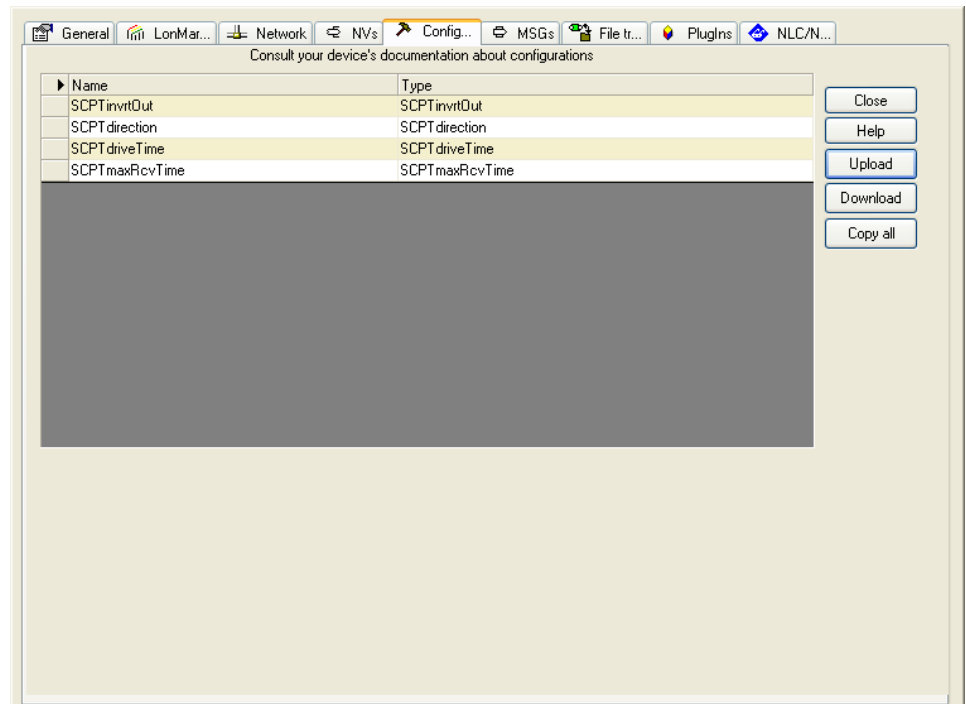

Figure 95: Configuration Tab for Configuration Properties in NL220.
2. Press the **Upload** button on the Configuration tab of the device properties (see Figure 95).